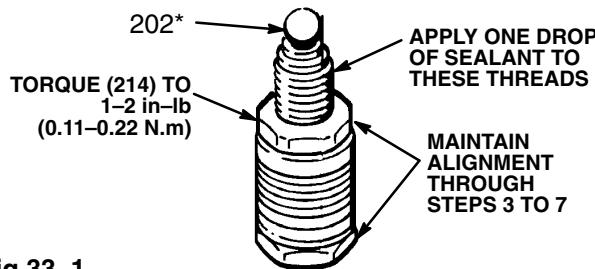

Fig 33–1
4. Apply *only 1 drop* of adhesive, supplied with the repair kit, to the threads of the piston valve. Place the small ball (202*) on the piston valve (222). See Fig 33–1.